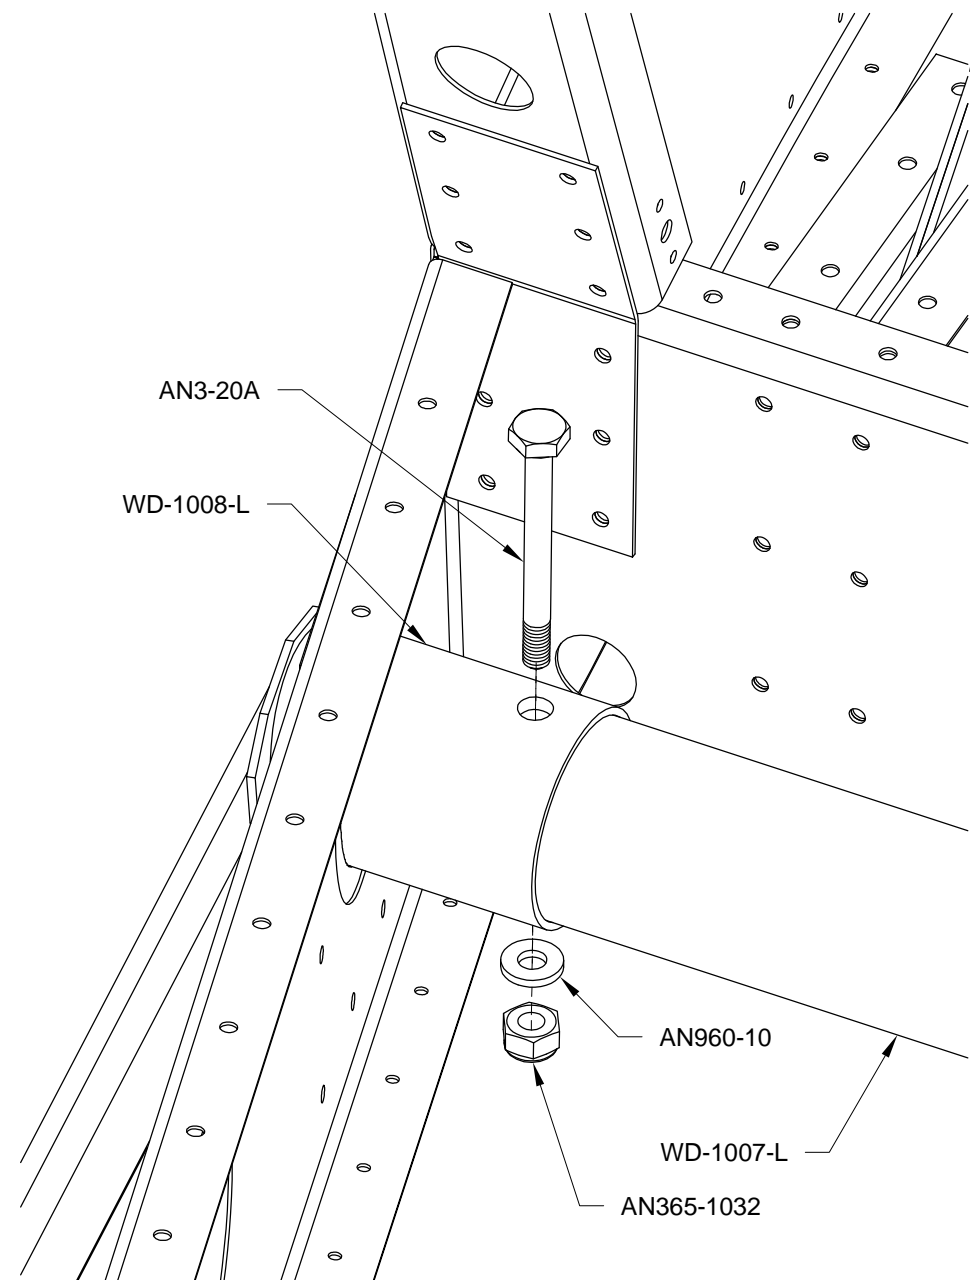

FIGURE 1: BOLTING THE STEP IN PLACE
Step 1: Bolt the WD-1007-L Step to the WD-1008-L Mounting Bracket as shown in Figure 1.